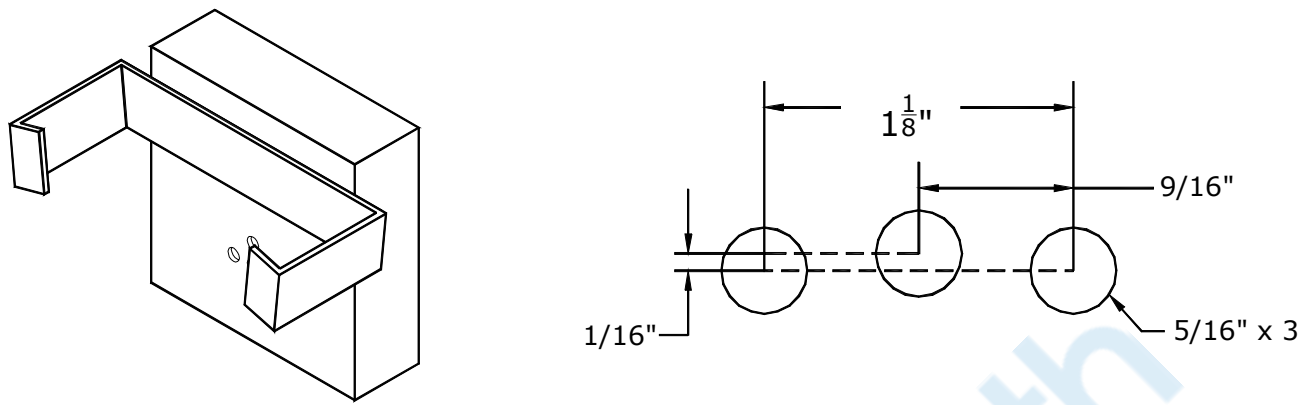

FIG 4. Remote/MIC Holder Mounting
9. Locate a mounting area for the Remote/MIC holder within or near the shower area. The holder should be mounted at eye level of the tallest person using the ambiance unit. Drill three holes in the wall where the Remote Holder is to be mounted (see **FIG 4.** for drilling dimensions). If you have purchased the Phone option, run the cable marked "PHONE MIC" hanging from the remote holder to the Command Module location. You will need to supply 3.5 mm extension cable(s) through the 5/16" hole just drilled running to the Command Module location. Place wall anchors in the two 5/16" holes. Place screws into anchors and tighten down leaving enough room to slide remote holder key slots over the screws to hold it in place. Place a generous amount of water proof silicone around the hole on the back of remote holder where the wires are coming out to prevent moisture from getting into the wall. Slide the holder onto the two anchors.